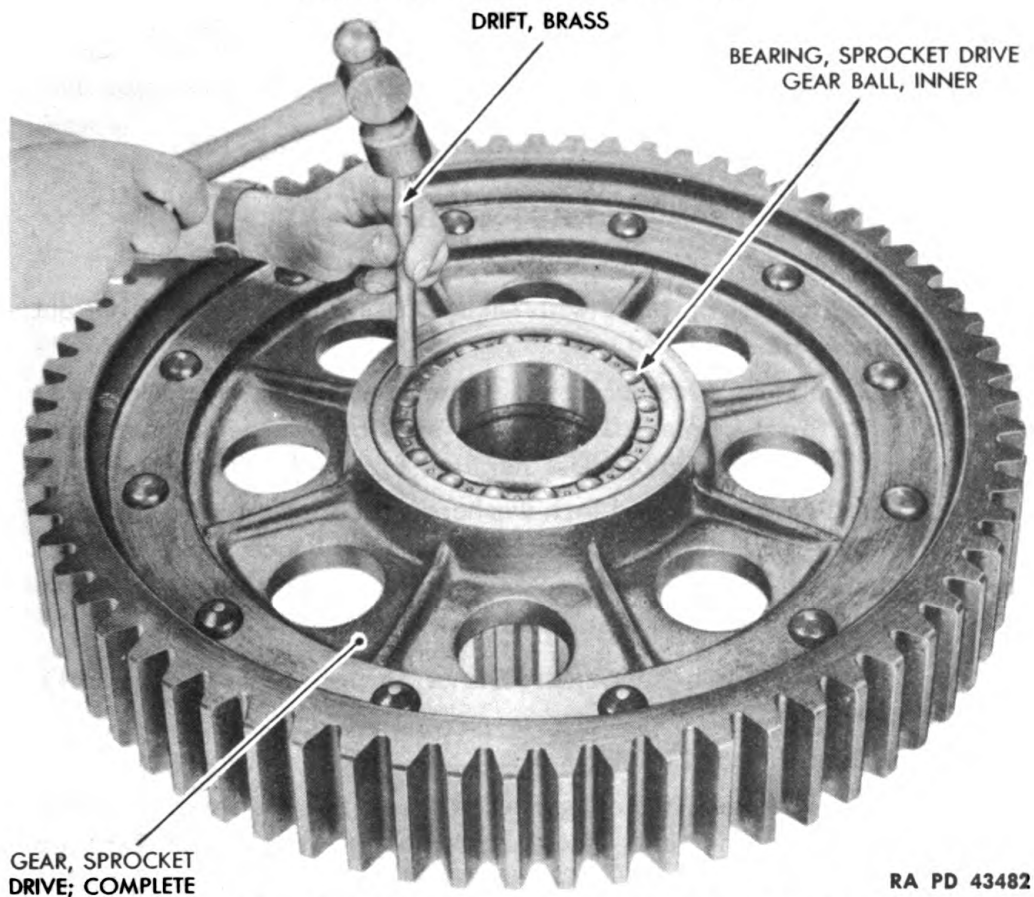

Figure 131 – Bearing in Sprocket Drive Gear; Complete Installation
(5) REMOVE INNER BEARING FROM SPROCKET DRIVE GEAR COMPLETE (reverse of fig. 131).
(5) INSTALL INNER SPROCKET DRIVE GEAR BALL BEARING (fig. 131).